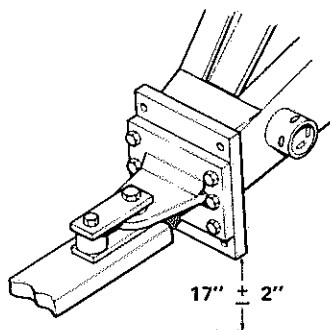
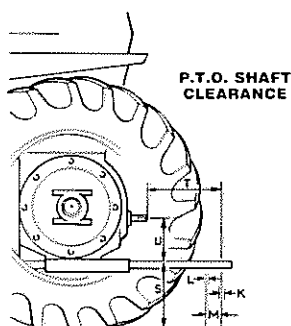

Fig. 1
Fig. 2
2. The front drawbar hitch on the baler is adjustable depending on the height of your tractor drawbar. The drawbar hitch can be adjusted up or down or turned over 180 degrees, see **Fig.1**, to achieve the proper adjustment. Avoid serious equipment damage by following the S.A.E. Standards in **Fig.2** and **Table 2**. Different dimensions are required depending on the size of tractor P.T.O. shaft to be used.
3. When hitching the baler to the tractor, follow the illustration in **Fig.1**. The distance from the bottom of the baler hitch mount to the ground should be 17 inches with a 2-inch tolerance. Ensure all fasteners are tightened in their proper position.